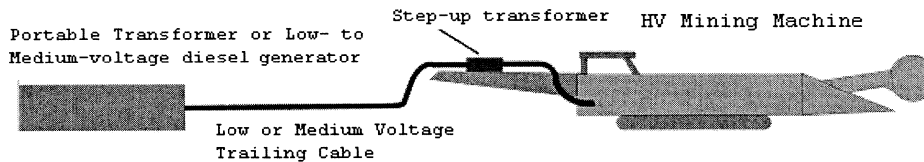

Figure 2 - Power source - 75.829(c) (2) 480 or 995 volts to a step-up transformer to 2300 volts for tramming
(2) *Step-up transformer.* A step-up transformer is a transformer that steps up the low or medium voltage to high voltage (See Figure 2 in this section) and must meet the following requirements:
- (A) Securely mounted to minimize vibration on: